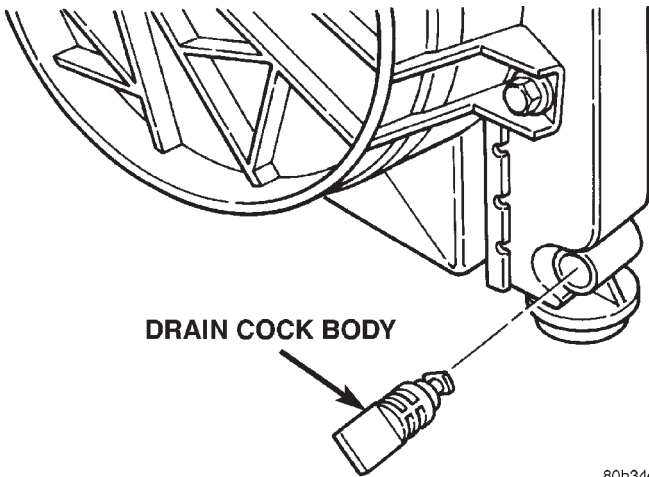

Fig. 21 Draincock
- (1) Turn the draincock stem counterclockwise to unscrew the stem. When the stem is unscrewed to the end of its threads, turn back 1/8 turn and pull the stem (Fig. 21) from the radiator tank.